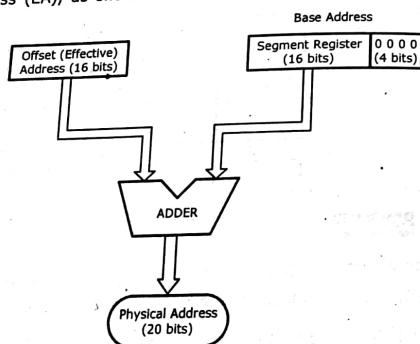

Fig. 5.3.9 Generation of Physical Address
The 20-bit actual address of a memory location is called physical address. For generating 20-bit physical address, microprocessor will add base address and offset (effective) address (EA), as shown in Fig. 5.3.9.